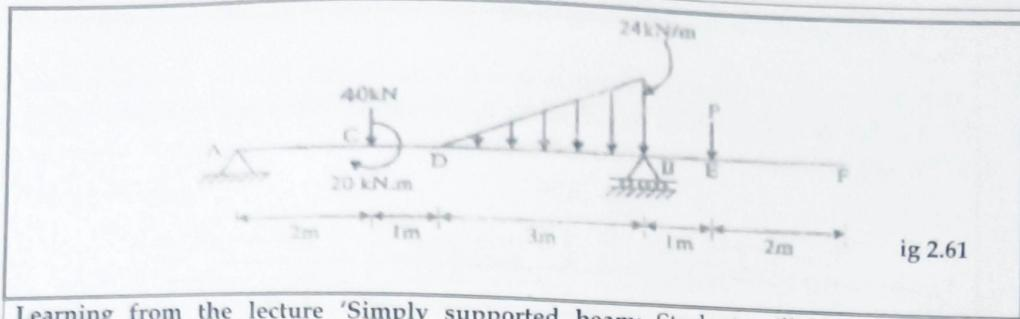

Fig 2.61
- 5) Find the support reaction at B and the load P, for the beam shown in fig 2.61. if the reaction at support A is zero. (Ans: 56kN, 102kN)